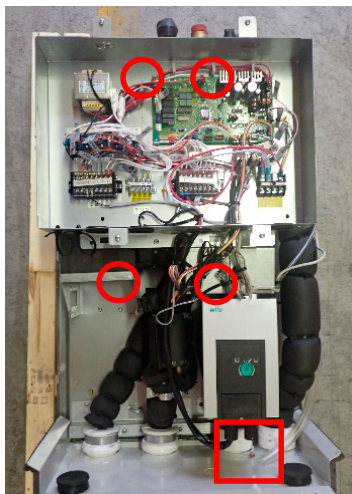

Fig19. Removing control box
- ① Loosen the screws and remove the power connections. (□ mark, Fig.19)
- ② Remove 4 screws. Remove the control box. (○ mark, Fig.19)